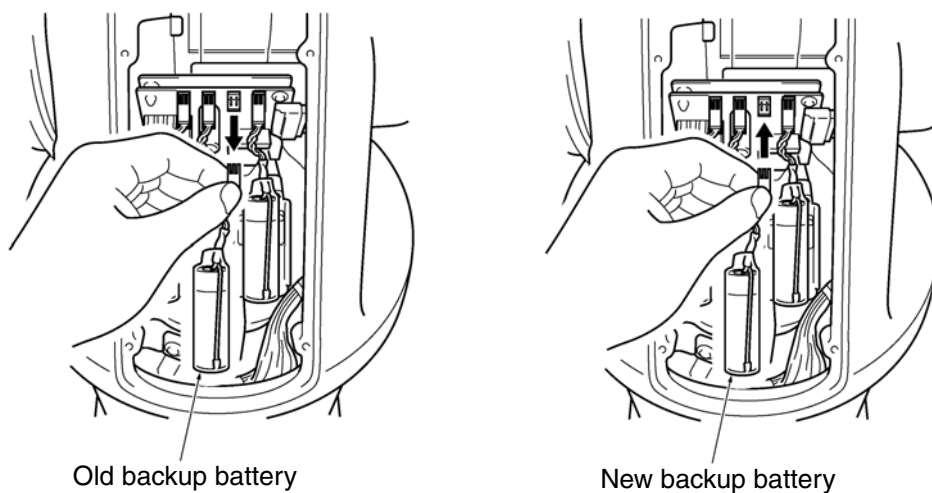

Figure 6-6. Connecting Third New Battery
7. Disconnect the old backup battery that is right next to the new battery connected in Step 6, and then connect a new battery (3rd one). See Figure 6-6.